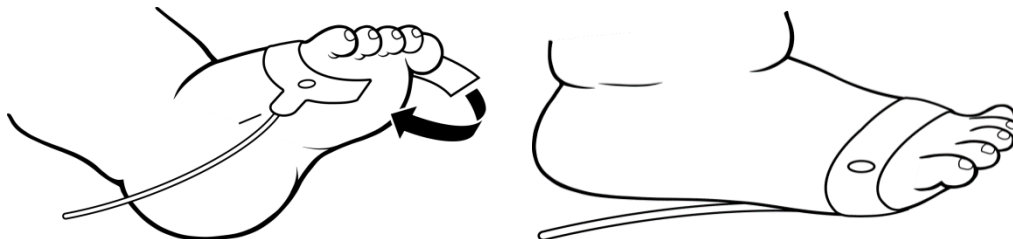

Figure 61: Flex Type Neonatal Application
**Neonatal:** The preferred application site is on the foot; close to the toes for infants less than 2 kilograms in weight (refer to Figure 61).